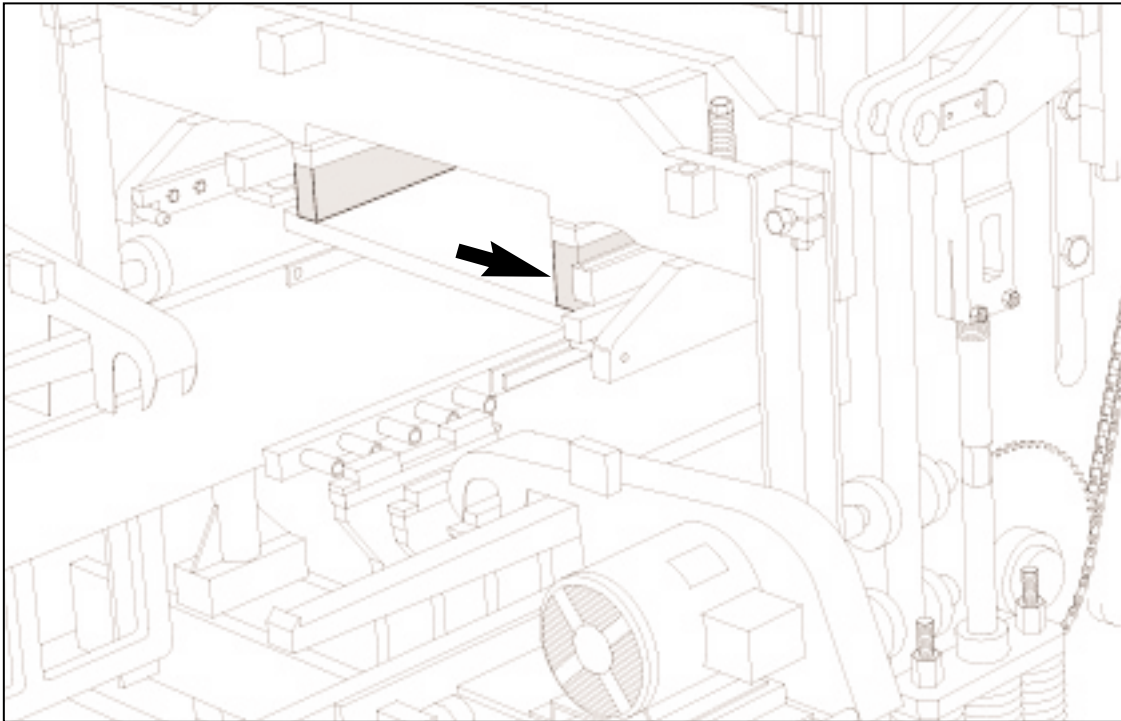

Figure 4.66 95mm (3 3/4") BLOCKING UNDER STRIPPER HEAD FRAME.
4.4.10 The DYNAPAC is now ready for the installation of the mold assembly. Follow the directions for installing an attachment in section 5 of this manual. When installing the stripper head use 279 mm (11") long bolts (**part #087136**) and insert 95mm [3 3/4"] of blocking in addition to the 38mm [1 1/2"] blocks already affixed to the stripper head frame (figure 4.66).